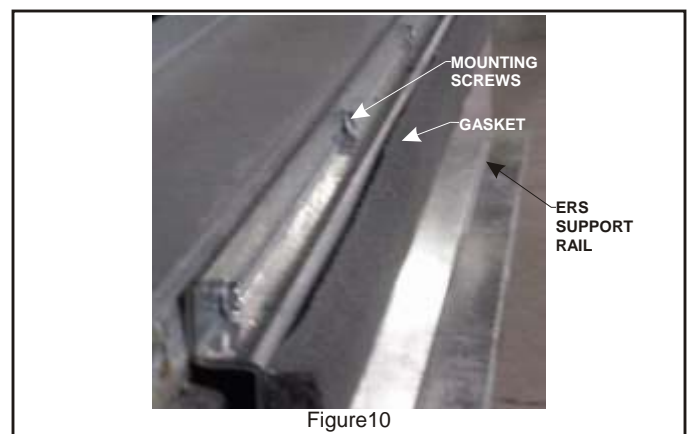

Figure10
1. Position ERS support rail with notched flange pointing away from rooftop unit. Center the ERS support rail by using the center hole of plate and aligning it with the center hole in the base pan of the return opening. Use (5) of the #14-16 x 3/4" screws provided to secure plate to base of unit. Apply 3/4" x 1 1/4" gasket along face of the support rail. **See Figure 10.**